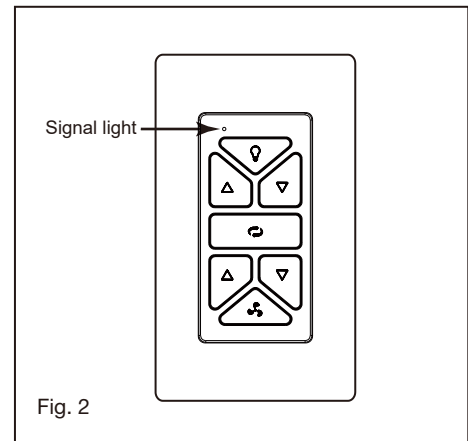

Fig. 2
2. Make wire connections from the fan to the receiver unit. For this step use the bundle of 5 wires on the receiver. (Fig. 2)
- 8 While holding the LED assembly under your fan, don't make the wire connections. (Fig. 2)
- 9 Raise the Bottom cover against the fan and turn clockwise until snug, DO NOT OVERTIGHTEN. (Fig. 2)
- 2 Seat the cradle A into the wall plate. (Fig. 2)
- 6 Signal light (Fig. 2)